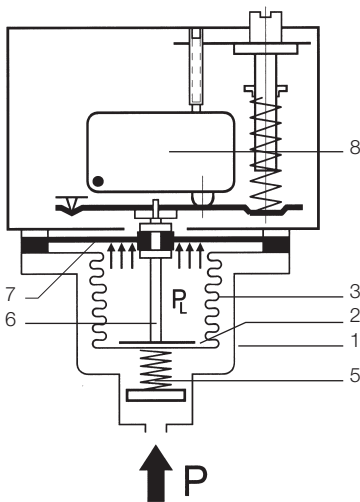

Fig. 1
- By a self monitoring pressure sensor which is designed so that a breakage in the mechanical part of the measuring element leads to cut-off to the safe side (see Fig. 1)
Fig. 1 is a crosssectional diagram of a pressure sensor which fulfils the "special construction" requirements. The measuring chamber is bordered by the housing (1), base (2) and measuring bellows (3). All parts are made of stainless steel and are welded together without filler metals. When the pressure rises the measuring bellows (3) moves upwards, supported by the back pressure spring (5). The setpoint spring installed in the switching device acts as a counter force. A transfer bolt (6) which transfers the pressuredependent movements of the measuring bellows (3) to the switching device located above is placed on the inside of the base. A plastic diaphragm (7), which is not in contact with the medium and in normal operation follows the movements of the measuring bellows but itself has no influence on the position of the bellows, is clamped in the upper part of the transfer bolt. On breakage of the measuring bellows (3), the medium can escape into the interior of the bellows. The medium pressure is now on the underside of the diaphragm (PL). An additional force is generated because of the far larger effective area of the diaphragm compared with the bellows, and this pushes the transfer bolt (6) upwards. This results in cut-off to the safe side. The cut-off condition thus achieved is normally interlocked electrically or mechanically, so that the system also remains cut off when the pressure drops again. The plastic diaphragm (7) is not a pressure-bearing part; it has no function in normal operation and is effective only if a leakage occurs to the measuring bellows. Safety diaphragms of the described design are permissible up to 32 bar. This should be sufficient for most applications.